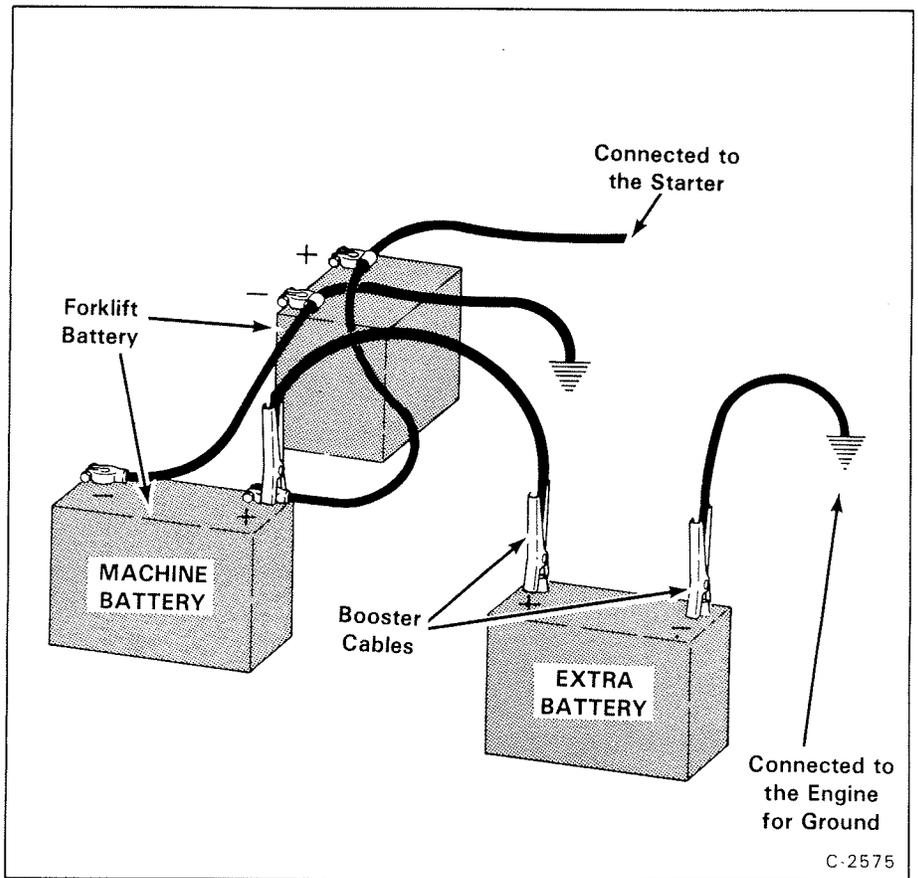

Fig. 1-29 Connecting the Extra Battery
(5) Connect the end of the first cable to the positive terminal (+) of the booster battery. Connect the other end of the same cable to the positive terminal (+) of the machine battery (Fig. 1-29).
NOTE: Figure 1-29 does not show the batteries as they are located in the machine.